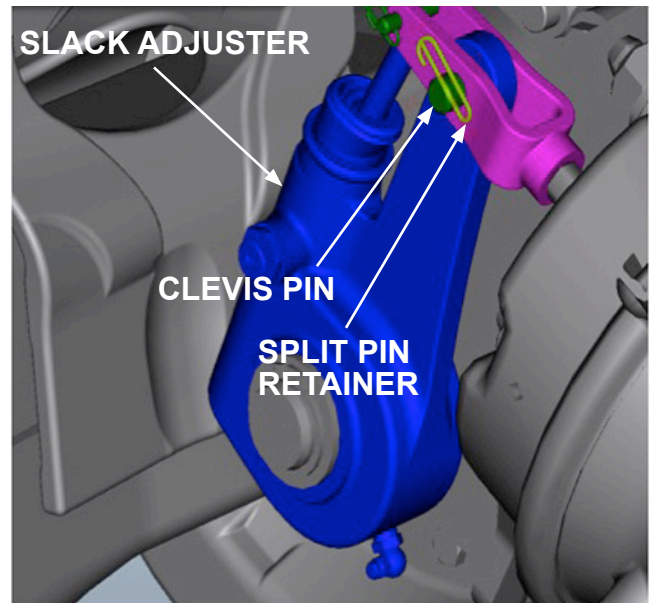

Figure 2
3. Inspect for the presence of the clevis pin and a split pin retainer (see *Figure 2*).